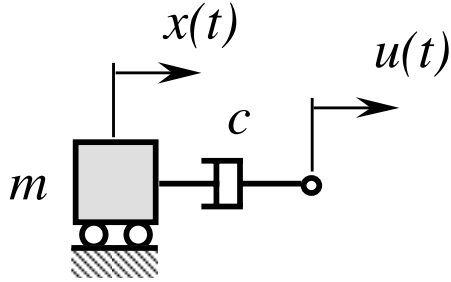

Figure 1: A mass-damper system
1. Consider a mass-damper system shown in Fig. 1 with inertia m and damping coefficient c . The mass is driven by a prescribed displacement $u(t)$. In addition, the position of the mass is $x(t)$ and the velocity of the mass is $v(t) \equiv \dot{x}(t)$.